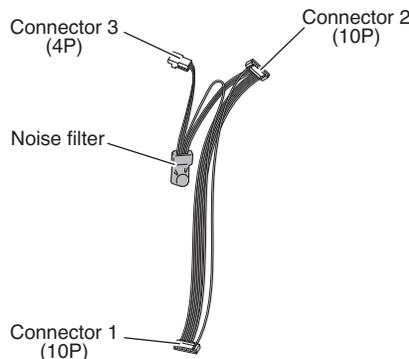
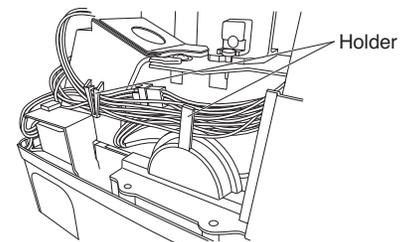

**Fig. 2a**
**Fig. 2b**
- (5) Disconnect the indicator-side connector (10P) of the wires that connect the indicator and component box (Fig. 2a). Then disconnect the connector on the component box side (10P) and remove the wires. (Lifting the P.C. board up slightly will make this work easier.) (Fig. 2b)
- (6) After removing the wires, insert Connector 1 of the wires (Fig. 3a) that were included in the kit package into the indicator (Fig. 2a), then insert Connector 2 into the component box. (Fig. 2b)
- (4) Disconnect the indicator-side connector (10P) of the wires that connect the indicator and component box (Fig. 2a). Then disconnect the connector on the component box side (10P) and remove the wires. (Lifting the P.C. board up slightly will make this work easier.) (Fig. 2b)
- (5) After removing the wires, insert Connector 1 of the wires (Fig. 3a) that were included in the kit package into the indicator (Fig. 2a), then insert Connector 2 into the component box. (Fig. 2b)